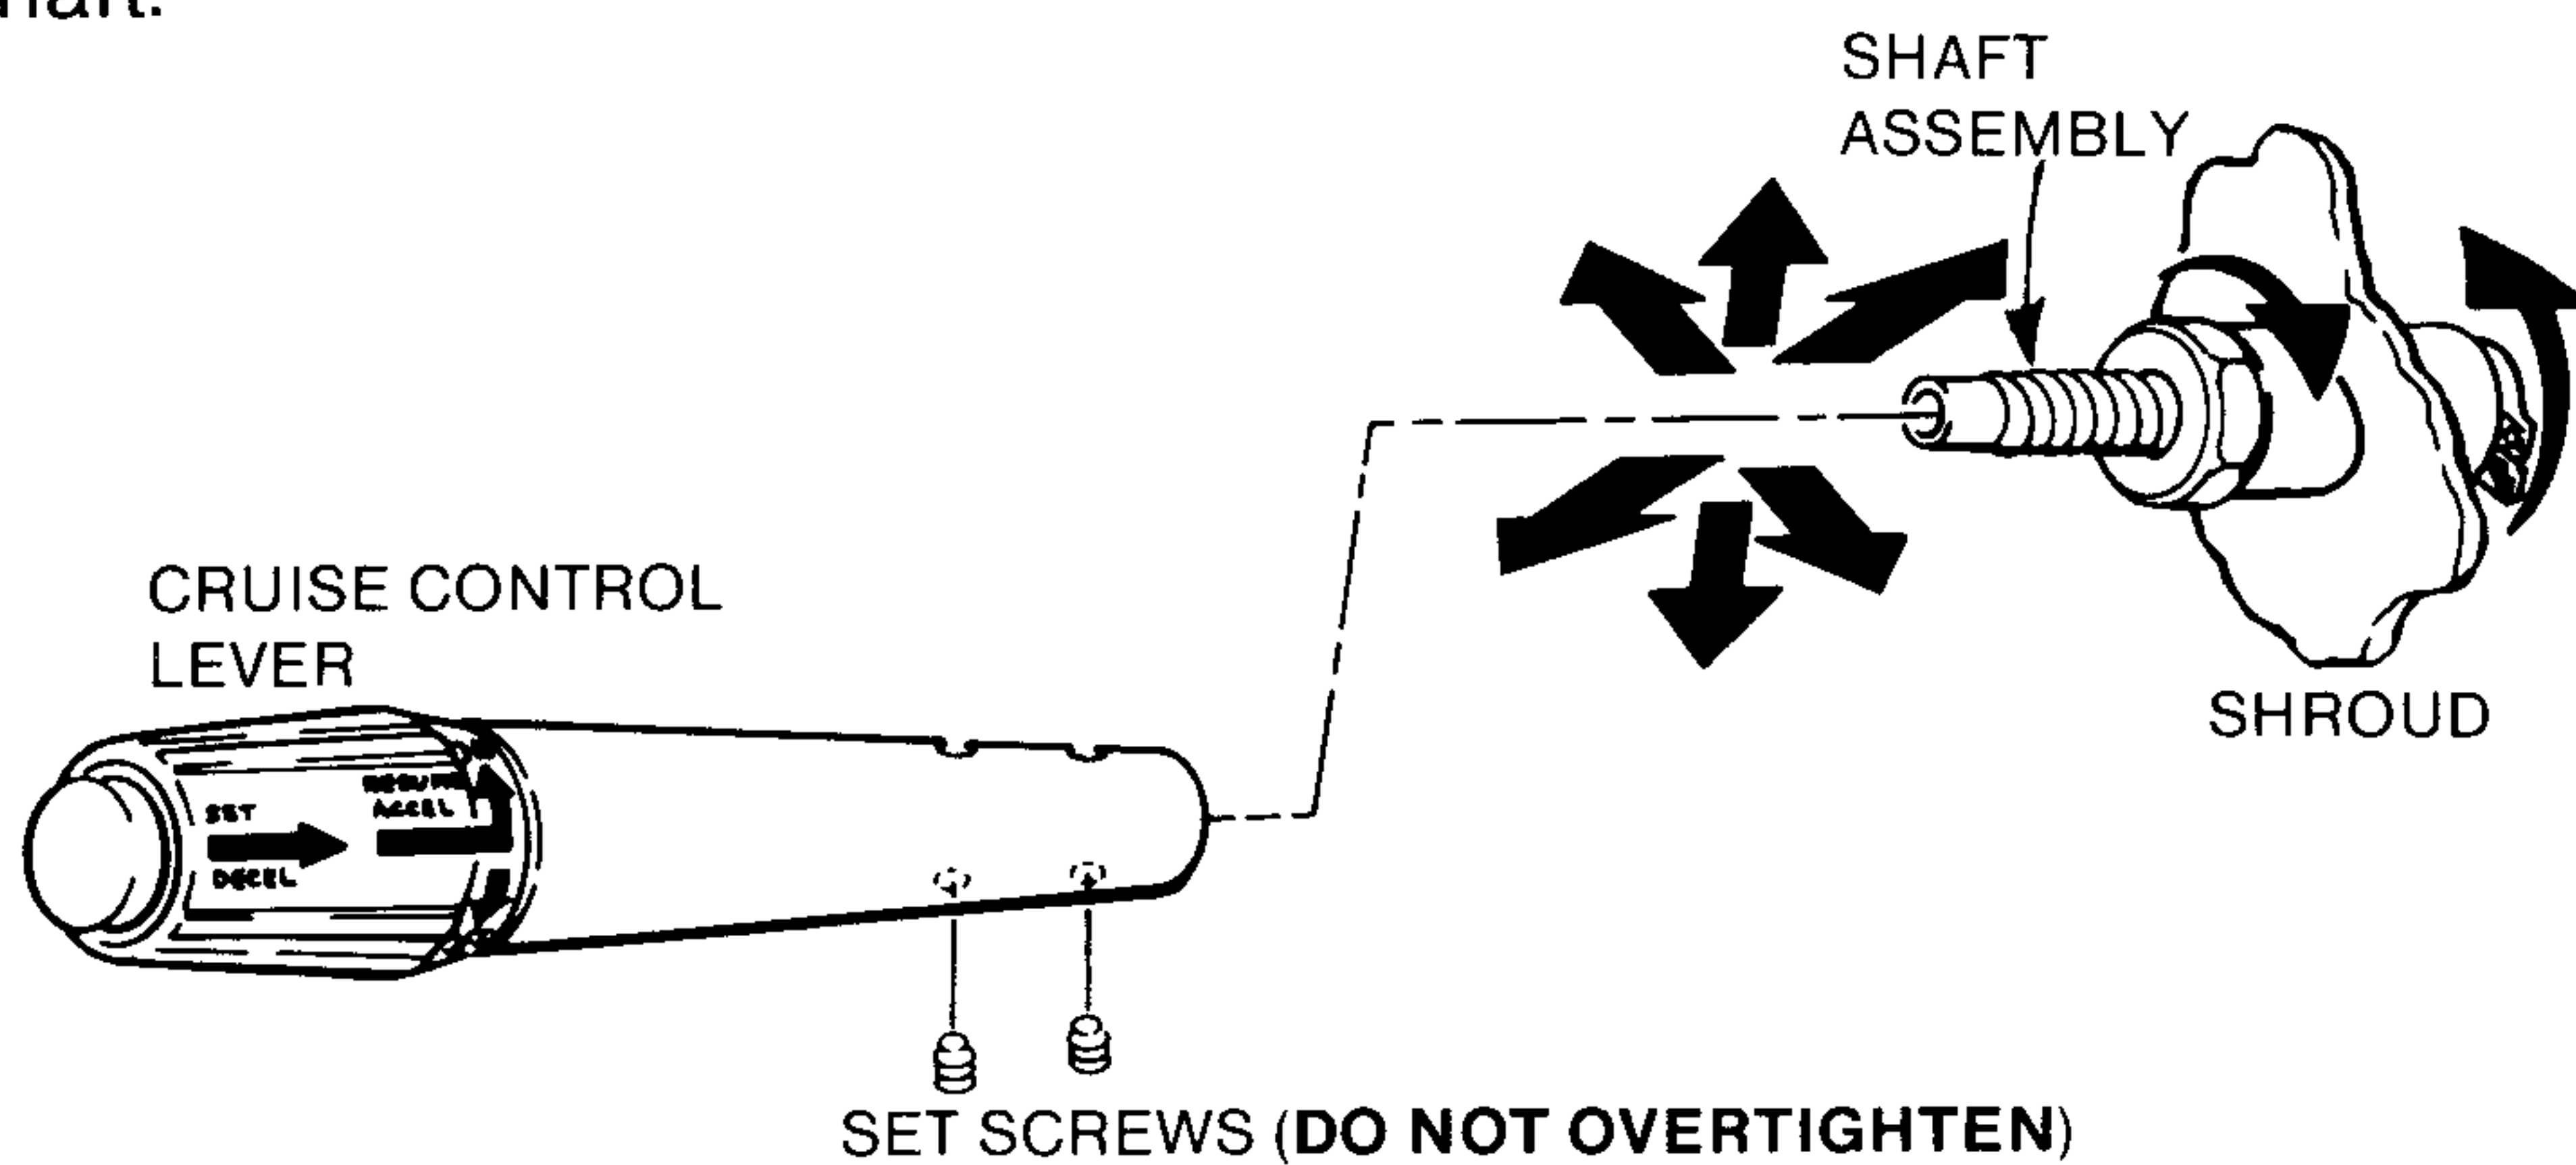

Figure 5
- c. Install the cruise control lever on the shaft assembly as shown in **FIGURE 5**. Make sure the cruise control lever is aligned with turn signal lever on the car.
- d. Install and tighten (2) two set screws provided in the kit. The screws should be at the bottom of the lever arm. See **FIGURE 5**.